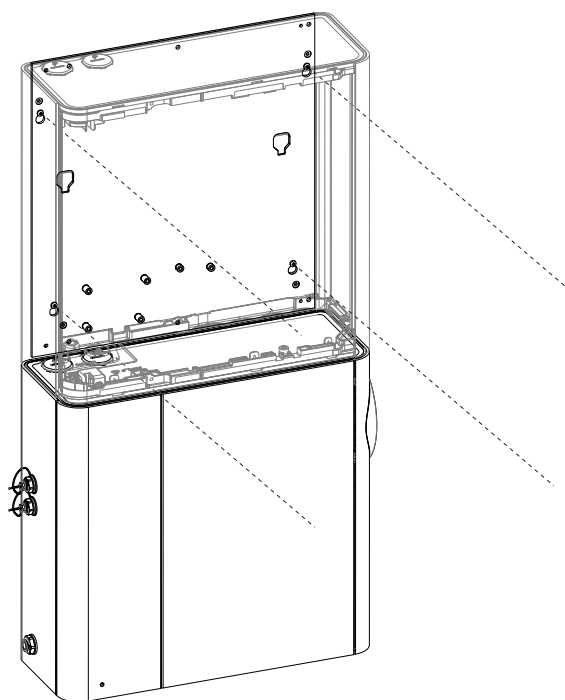

Figure A-14: Tighten Mounting Screws
6. Insert the third and fourth mounting screw and tighten all four (Figure A-14).